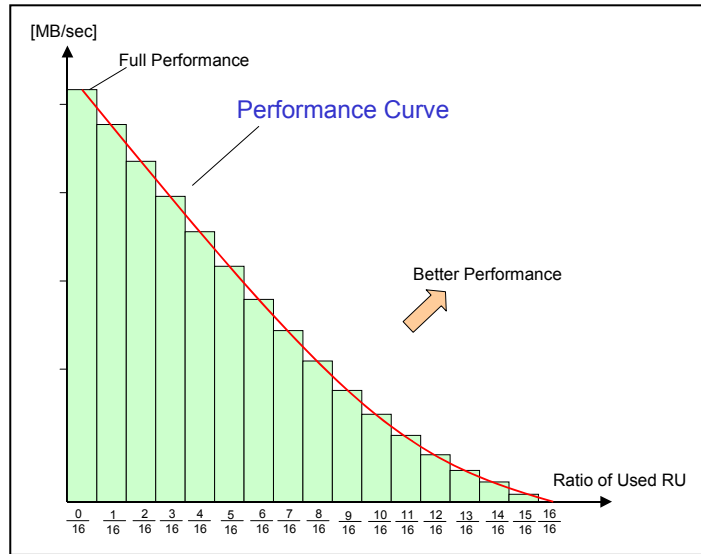

Figure 4-29: Card Performances between 16 RUs
Figure 4-29 shows the write performances bar chart of P(Nu) of equitation (1). An AU consists of 16 RUs in this example. Joining the points of each bar shows the performance curve, which can be determined from the two parameters, Pw and Pm.